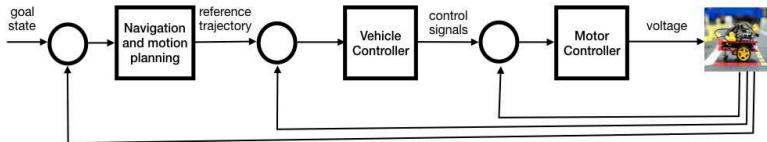

Figure 2.5. An example of nested control loops
The loops are called nested since the output of the outer loop is used as the reference input to the inner loop. An example is shown in Figure 2.5.
**Recommended:** If Figure 2.5 is VERY mysterious to you, then you may want to have a quick look in a basic feedback control textbook. For example [\[21\]](#) or [\[22\]](#).
The next inner loop of the nested controller in Figure 2.5 is the **Vehicle Controller**, which takes as input the reference trajectory generated by the **Navigation and Motion Planning** block and the current configuration of the robot, and uses the error between the two to generate a control signal.